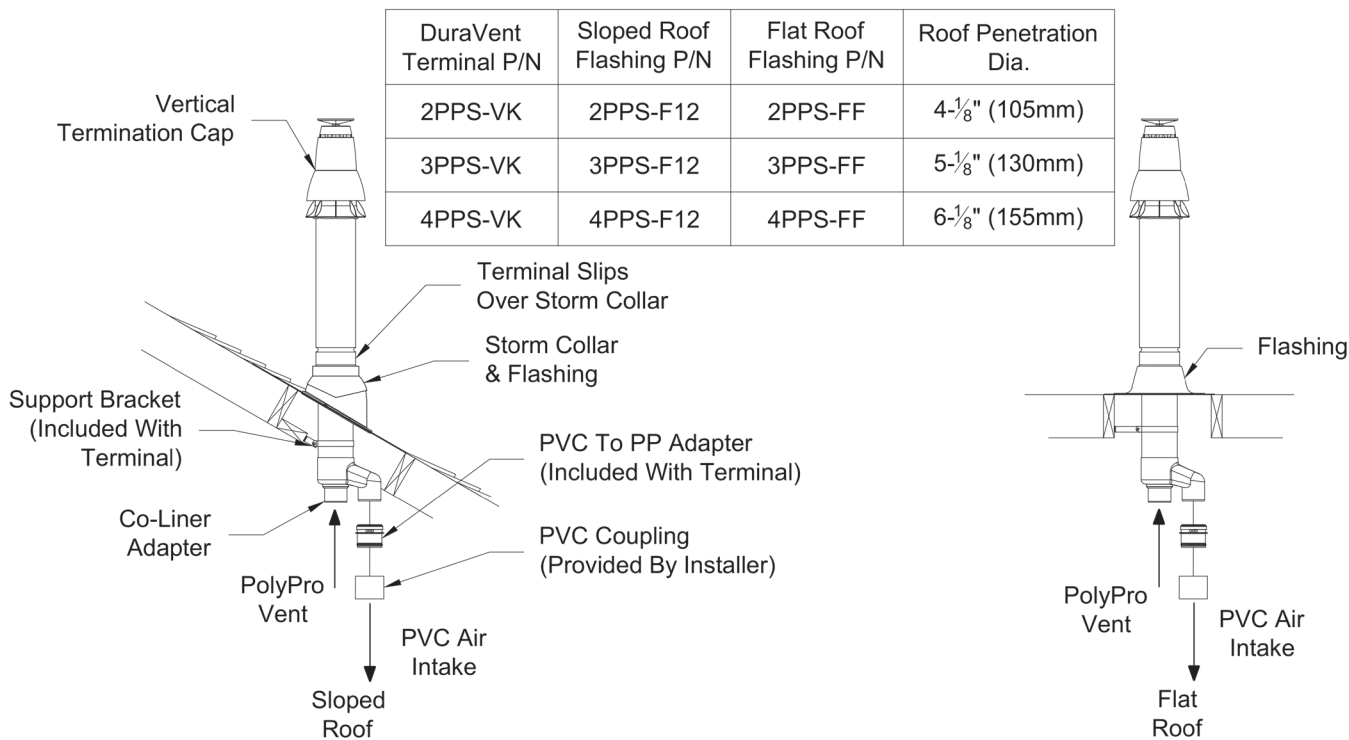

Figure 7.39: Installation of DuraVent PolyPro Concentric Terminal Through Roof
7. Vertical Installations using PolyPro Vertical Concentric Termination Kit #3PPS-VK or #4PPS-VK (Figure 7.39):
- b. Use a roof flashing and storm collar to prevent moisture from entering the building. See Figure 7.39 for the model number of the flashing to be used depending on the type of roof. Seal the roof flashing to the roof using generally accepted practice for the type of roof on the installation.